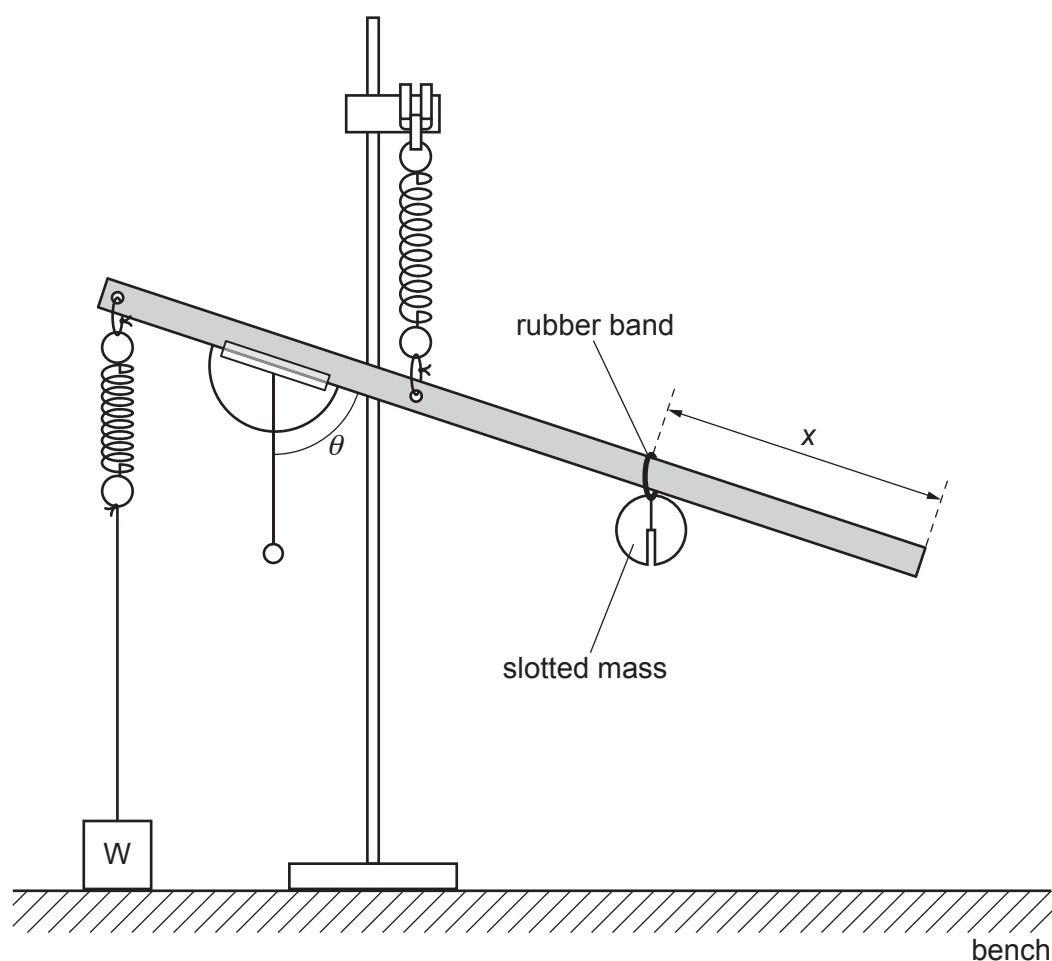

Fig. 1.2
- Slide the rubber band and slotted mass onto the rule so that the rubber band is approximately 30 cm from the end of the rule. The rule will tilt down, as shown in Fig. 1.2.
- The distance between the rubber band and the end of the rule is x , as shown in Fig. 1.2.
- The angle indicated by the plumb-line on the protractor scale is θ , as shown in Fig. 1.2.